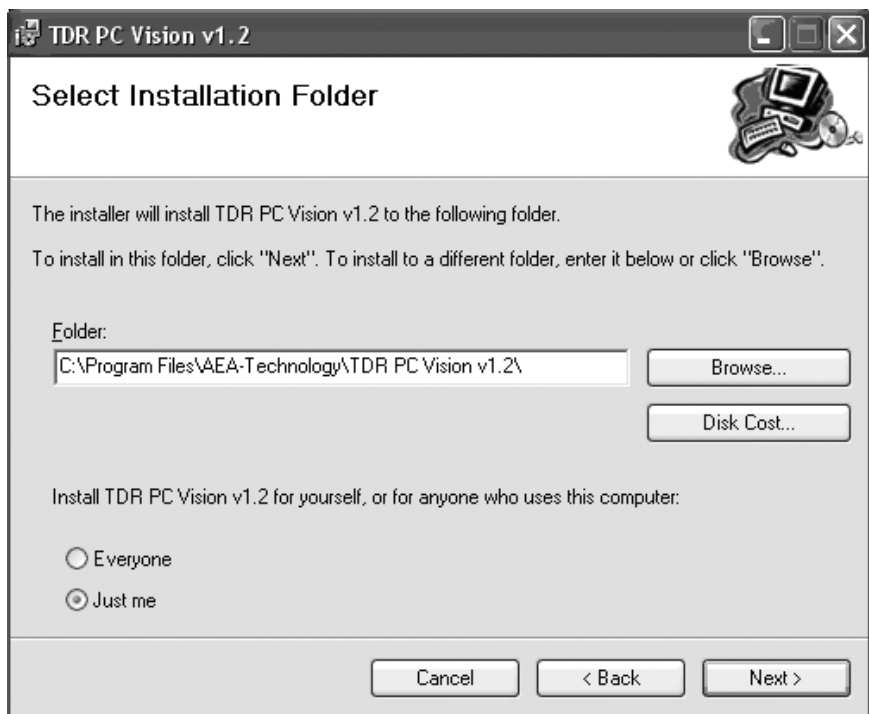

Figure 4-3
4. Click on the “Next” key to start the installation. The next dialog box will be a shown in figure 4-3
5. AEA Technology recommends accepting the default installation folder (Figure 4-3), however the Select Installation Folder dialog box offers an option to select a different folder for installation. Enter a folder or click on "Browse" to choose a folder for installation.